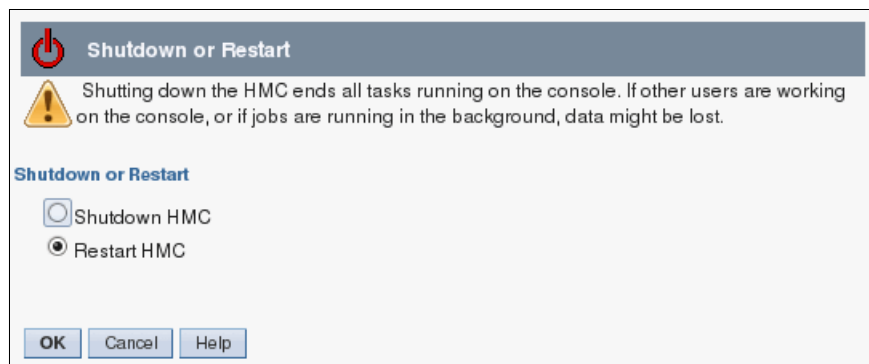

Figure 3-111 Restart the HMC
40. Confirm to restart the HMC by selecting **Restart HMC** and clicking **OK** (Figure 3-111).